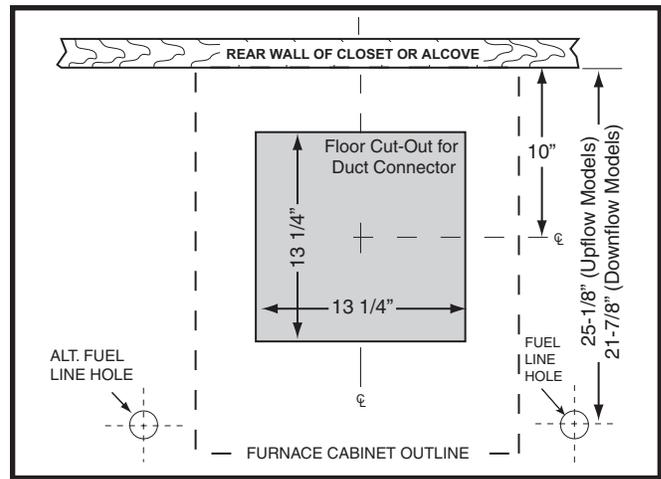

Figure 13. Floor Cutout Dimensions
- a. Measure 10" from the rear wall or alcove and mark the centerline of the cut-out on the floor. Using the centerline as a starting point, draw the rest of the cut-out to the dimensions shown in Figure 13.